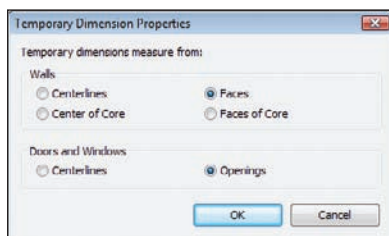

FIGURE 2.26 The most popular configuration for Temporary Dimensions
3. In the Doors and Windows group, select Openings, as shown in Figure 2.26.